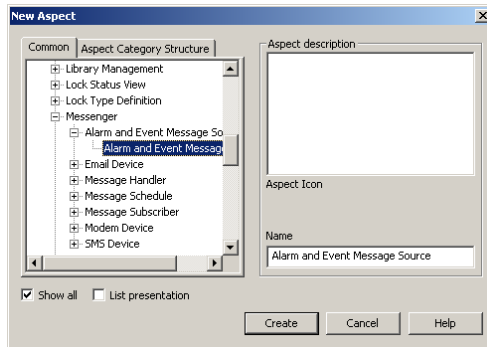

Figure 109. New Aspect Dialog Box (Alarm and Event Message Source)
- b. Navigate to and select Alarm and Event Message Source from the list that appears to produce the view shown in Figure 109.